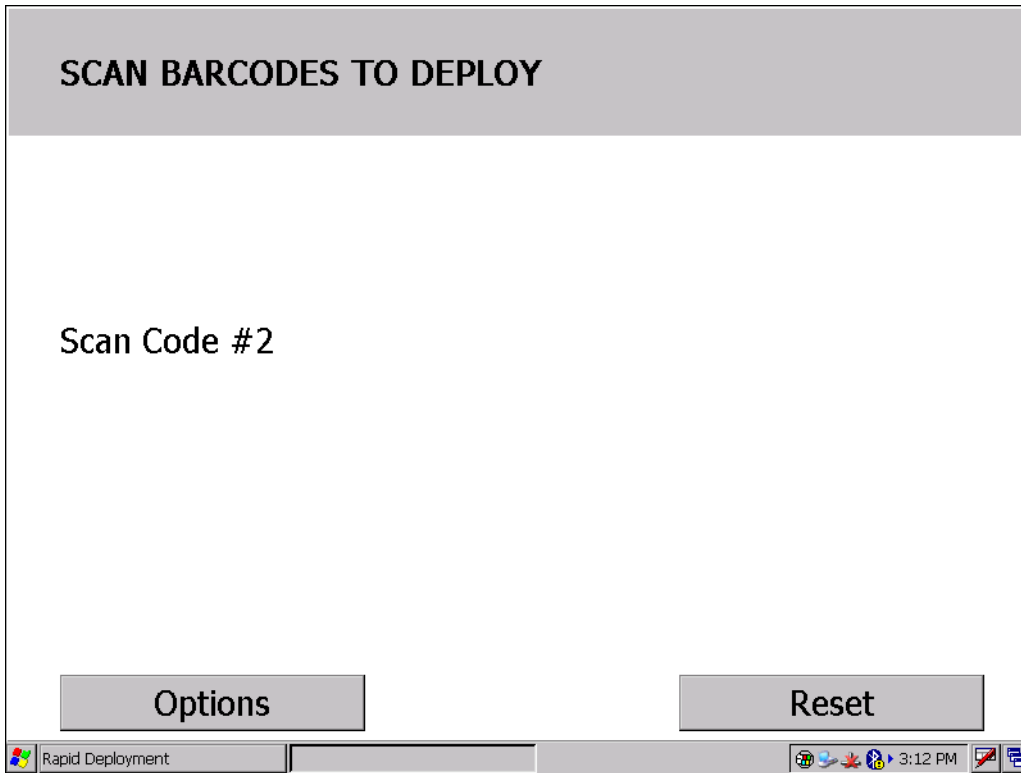

Figure 8-7 Rapid Deployment Window
- b. Multi-part linear bar codes (1-D bar codes) can require scanning several bar codes. Bar codes can be scanned in any order. The text box under **Bar codes left to scan...** shows the remaining bar codes to scan (see Figure 8-7).